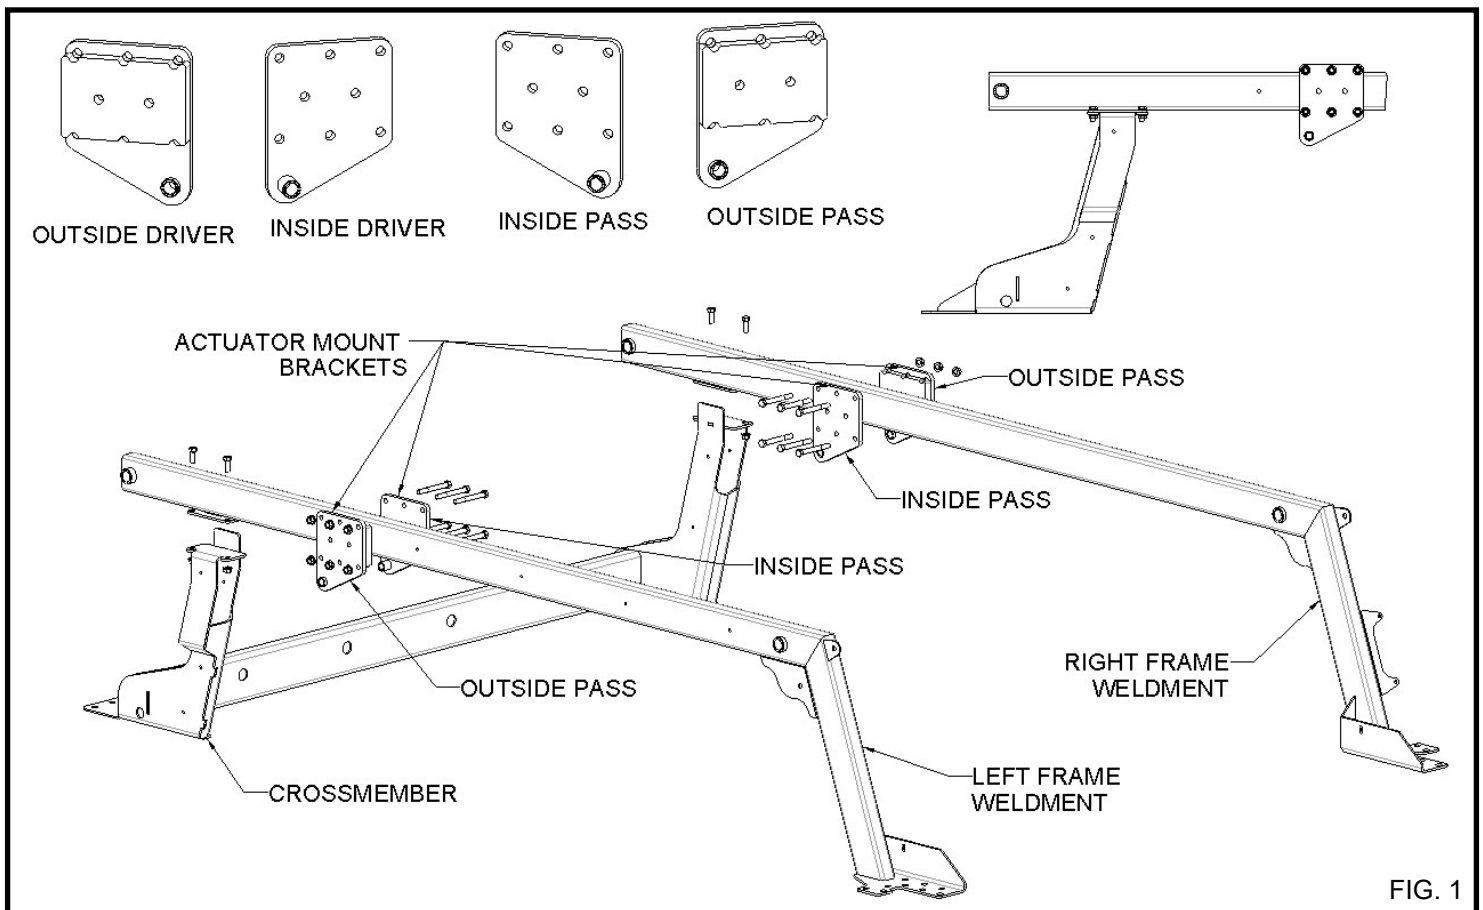

FIG. 1
- 6.2. Inside the vehicle, assemble the left and right frame weldments to the crossmember using (4) 3/8 X 1 UNC bolts and (4) 3/8 serrated flange nuts as shown in **FIG. 1**. Finger tighten all attachment bolts. Final tightening will be completed following installation and adjustment of the torsion arm and tie-rods.
- 6.3. Assemble the actuator mount brackets to the right and left frame weldments, using (12) 3/8 X 3 UNC bolts and (12) 3/8 serrated flange nuts. See **FIG. 1** for the placement of the actuator mount brackets.